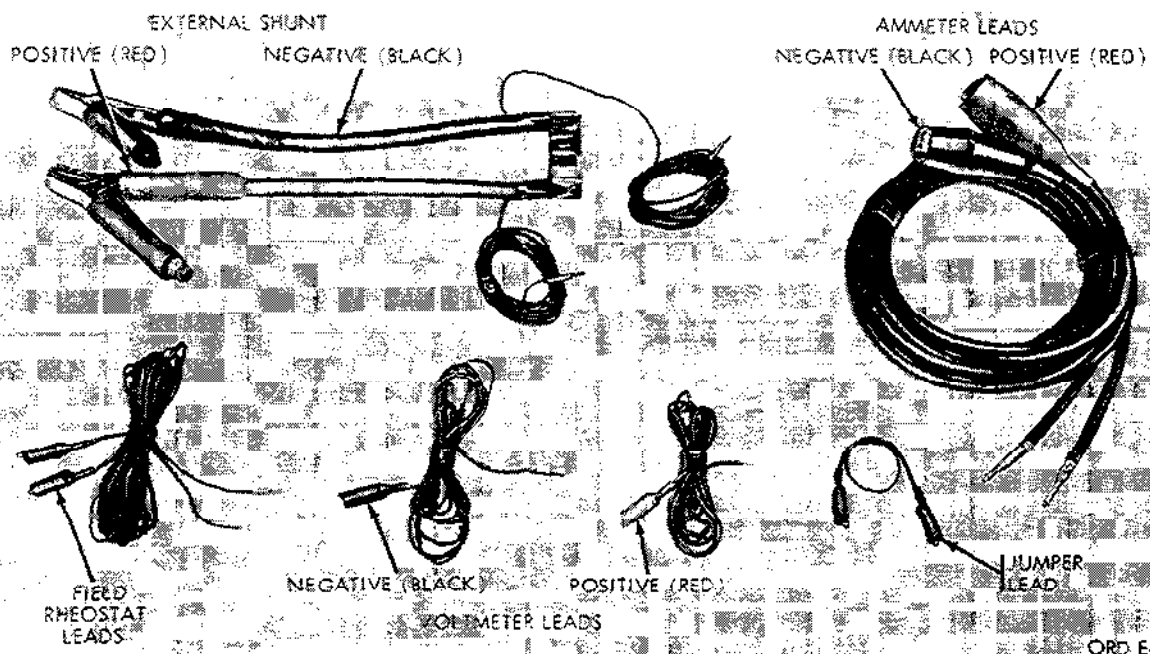

Figure 2-7. Test leads for use with low voltage circuit testers.
(1) Determine exactly what is to be tested, where the test leads will be connected, and what voltage to expect.
(2) Voltage must be measured at the exact circuit point specified in Electrical Troubleshooting tests. Resistance of poor wiring, connections, and switch contacts can cause errors if voltages are measured at points elsewhere in the circuit or on other parts of the component.
(3) Connect the voltmeter test leads (fig. 2-7) to the voltmeter binding posts (11, fig. 2-3). Connect the black lead to the negative (—) post (B), and the red lead to the positive (+) post (A).
(4) Set the voltage range selector switch to a range higher than the expected voltage. Determine exactly which row of figures you will read.
(1) Determine exactly what is to be tested. Where the test leads will be connected, and what amperage to expect.
(2) Amperage may be measured at any convenient point in a single circuit, since the current is always the same throughout the circuit.
(3) Connect the ammeter red test lead (fig. 2-7) to the positive (+) binding post (2A, fig. 2-3). Tighten the binding post securely.
(4) Select a negative binding post (2B, C or D, fig. 2-3) marked with an amperage range higher than the expected amperage. Connect the ammeter black test lead (fig. 2-7) to this selected binding post and tighten the binding post securely. Determine exactly which row of figures on the ammeter you will read.
(1) When amperage exceeding 100 amperes is expected, the external shunt assembly (fig. 2-7) should be used. The shunt assembly consists essentially of a power resistor which absorbs 98 percent of the circuit amperes and allows only 2 percent to be sent to the meter. Thus, if the circuit current was 200 amperes, 196 amperes would be absorbed by the shunt and 4 amperes would be indicated on the meter. The 500-ampere figures on the meter scale are used for this shunt. A 200-ampere current through the shunt will indicate a reading of 200 on the meter scale, although a current of only 4 amperes is actually flowing through the meter.